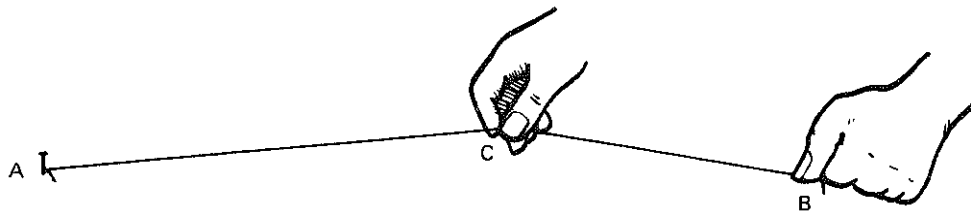

Fig. 4-50 Snapping a line
4. After the line has been chalking, stretch it taut between the nail, A, and point B, figure 4-50, with the thumb holding the line tight and close to the surface, as at B.